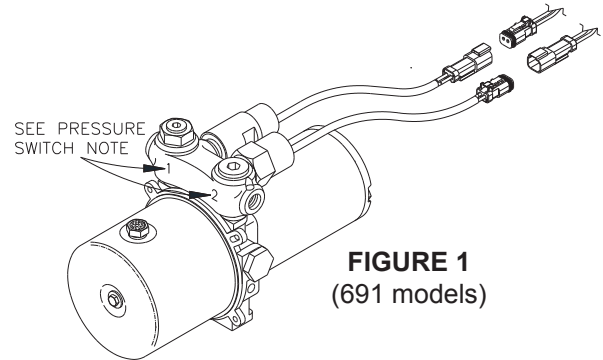
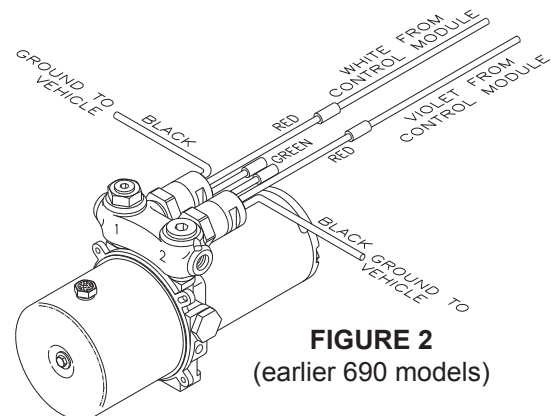
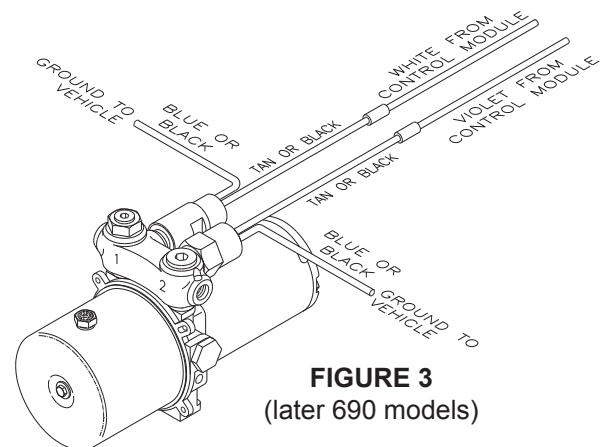

FIGURE 1
FIGURE 2
FIGURE 3
Regardless of manufacture date, the position of the high and low pressure switches have remained the same. See Figure 1, position 1 will always have a pressure switch stamped 1-800 or 1-1200 and position 2 will always have a pressure switch stamped 2-10. Be sure to install the correct replacement switch.
2. **691 models:** Reattach wire connectors. See Figure 1.
3. **690 models:** Earlier models of the 690 power unit provided a black wire, red wire, and green wire from each of the pressure switches as shown in Figure 2. Later models used pressure switches which provided two black wires from each switch as shown in Figure 3. Both of the replacement pressure switches have a tan wire and a blue wire. The blue wire is connected to ground. When replacing the pressure switch stamped 1-800 or 1-1200 the tan wire is connected to the white wire from the control module. See Figures 2 and 3. When replacing the pressure switch stamped 2-10 the tan wire is connected to the violet wire from the control module. See Figures 2 and 3. **NOTE: Replacement switches may have connectors similar to FIGURE 1. Remove connectors as needed.**
1. **691 models:** Remove old power unit and install new power unit. Reattach wire connectors. See Figure 1.
2. **690 models:** Remove old power unit and install new power unit. Note that the replacement power unit has connectors similar to Figure 1. Remove connectors as needed. Earlier models of the 690 power unit provided a black wire, red wire, and green wire from each of the pressure switches as shown in Figure 2. Later models use pressure switches which provide two black wires from each, or a blue wire and tan wire from each, as shown in Figure 3. When replacing the power unit, the blue wires from the pressure switches connect to ground. The pressure switch stamped 1-800 or 1-1200, the tan wire is connected to the white wire from the control module. The pressure switch stamped 2-10, the tan wire is connected to the violet wire from the control module. See Figure 3.